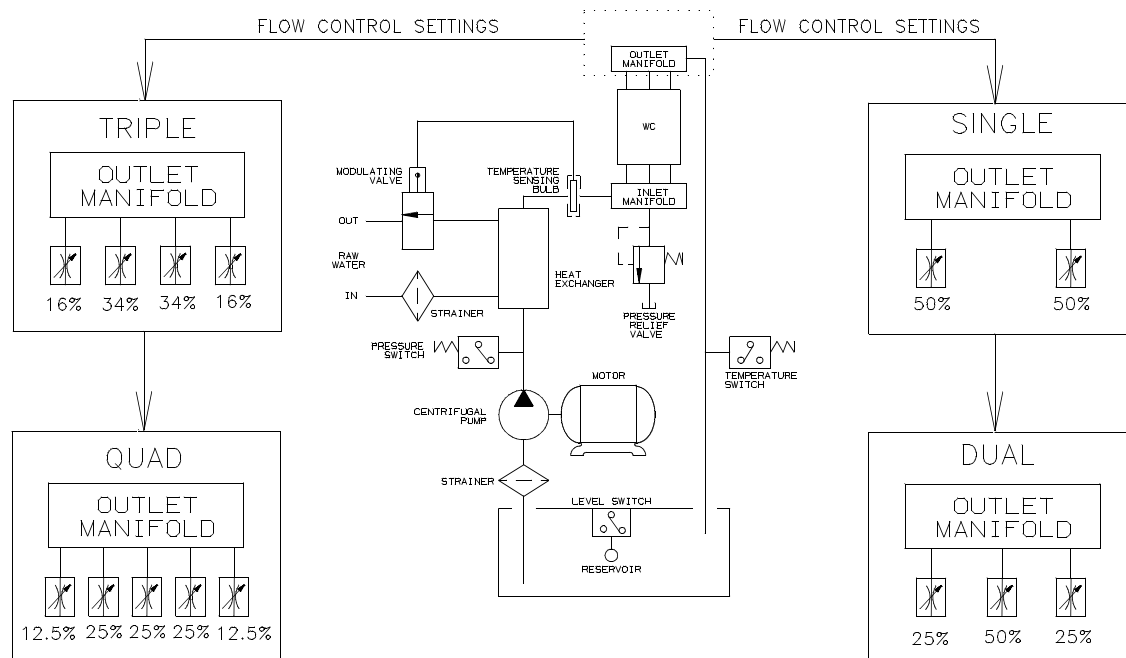

Figure 5
2.4.4 Inlet and outlet coolant manifolds must be provided. Manifolds should be constructed to allow for even flow through all ports. On sizes 18" and larger, two hoses can be routed to the reaction plates (30) to assist with balancing the flow to each wear plate.
Note: Reaction plates (30) in WCB2 sizes 18" and larger typically have two inlet and two outlet ports to assist with obtaining balanced flow to each cooling chamber. In the event that a multiple disc tensioner includes an older style reaction plate with only one inlet and one outlet port, water flow should be restricted at the inlets to the pressure plate (13) and mounting flange (1) to allow for equally proportional heat dissipation at each cooling cavity. See Figure 5.
2.4.8 Figure 5 illustrates a typical closed loop liquid to liquid coolant system. The heat exchanger and temperature control would be replaced with a radiator, fan and motor in a liquid to air system.